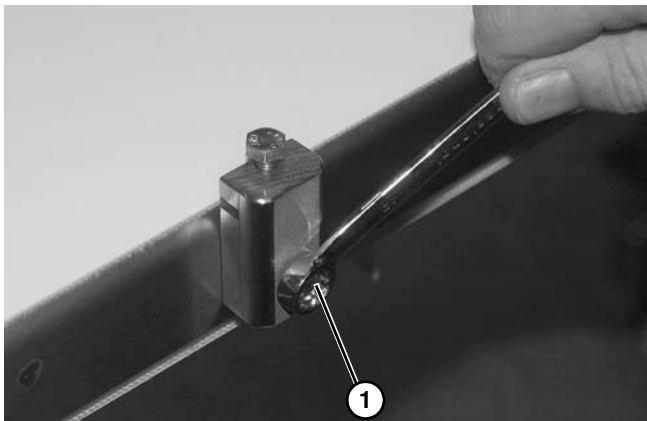

Figure 39
2. Use a nut (Figure 39, item 1) to secure guide bracket with carriage bolt. Tighten nut.